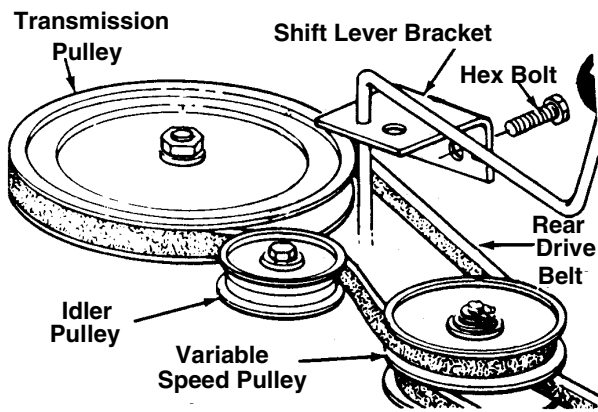

Figure 26
3. Push the idler pulley toward the right side of the unit. Lift the belt over the idler pulley. See Figure 26.
5. Remove the two bolts which hold the shift lever bracket to the frame on the left side of the unit. Swing the bracket toward the right so the belt can be removed from the transmission pulley. See Figure 26.